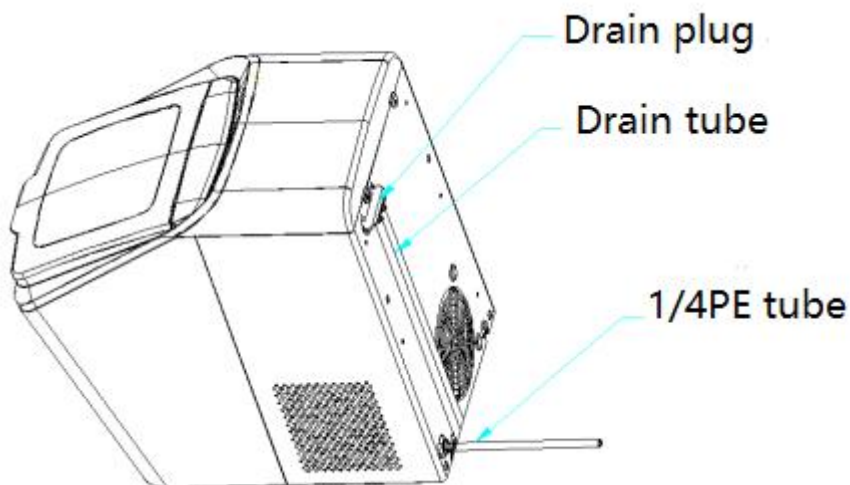

Fig.1
(1) If the appliance is connected with external water source by the 1/4PE tube shown in the section of “CLEANING AND MAINTENANCE” (see Fig.1), the water reservoir will be refilled with water automatically and the appliance will restart the ice-making cycle; alternatively, the user can remove the ice basket and refill the water reservoir with water to “MAX” mark manually, and then the appliance will restart the ice-making cycle automatically. Please remember to close the front lid after refilling water manually avoid overflow.
(2) If the appliance is not connected with external water source, firstly remove the ice basket and then fill the water reservoir with water manually. After the water reservoir is refilled with water, please close the front lid, then the appliance will restart the ice-making cycle automatically.
15. The ice maker can be connected with external water source by the 1/4PE tube shown in the section of “CLEANING AND MAINTENANCE” (see Fig.1) if you want to add the function of refilling water automatically.